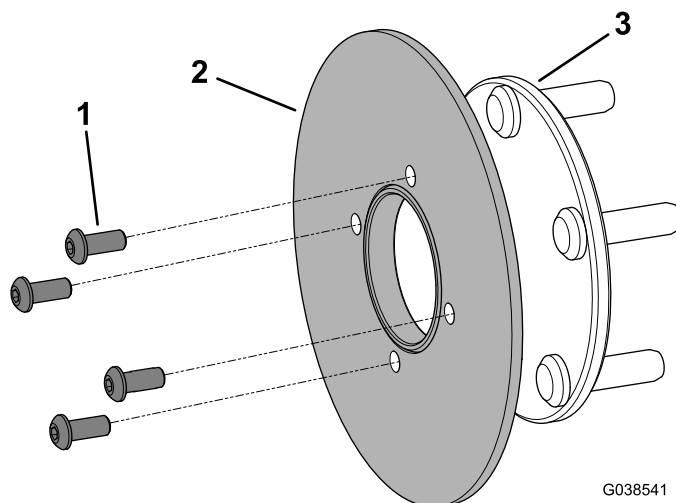

**Figure 6**
- Remove the dust cap, hairpin cotter, nut retainer, and jam nut, and remove the hub and rotor from the spindle (Figure 6).
- A. Tighten the jam nut while turning the hub to seat the bearings, and torque the jam nut to 16 to 20 N·m (12 to 15 ft-lb) as shown in Figure 6.
- B. Loosen the jam nut until it is away from the tab washer and hub, and torque the jam nut to 169 to 226 N·cm (15 to 20 in-lb) while rotating the hub (Figure 6).
- C. Install the nut retainer over the jam nut, ensure that the hole for the hairpin cotter is visible, and install the hairpin cotter (Figure 6).
- D. Install the dust cap (Figure 6).